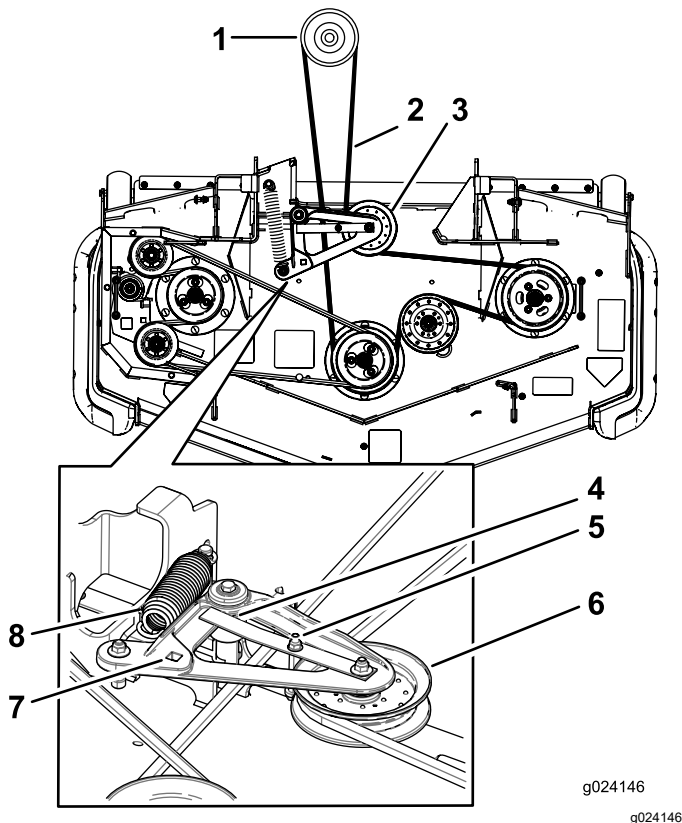

Figure 93
6. Use a ratchet in the square hole in the idler arm to remove tension on the idler spring (Figure 93).
8. Install the new belt around the mower pulleys and the clutch pulley under the engine (Figure 93).
9. Rotate and ensure the belt-guide tab hits against the pivot hub (Figure 93).
10. Using the ratchet in the square hole, install the belt around the spring-loaded idler pulley (Figure 93). Seat the spring ends in the anchor grooves.